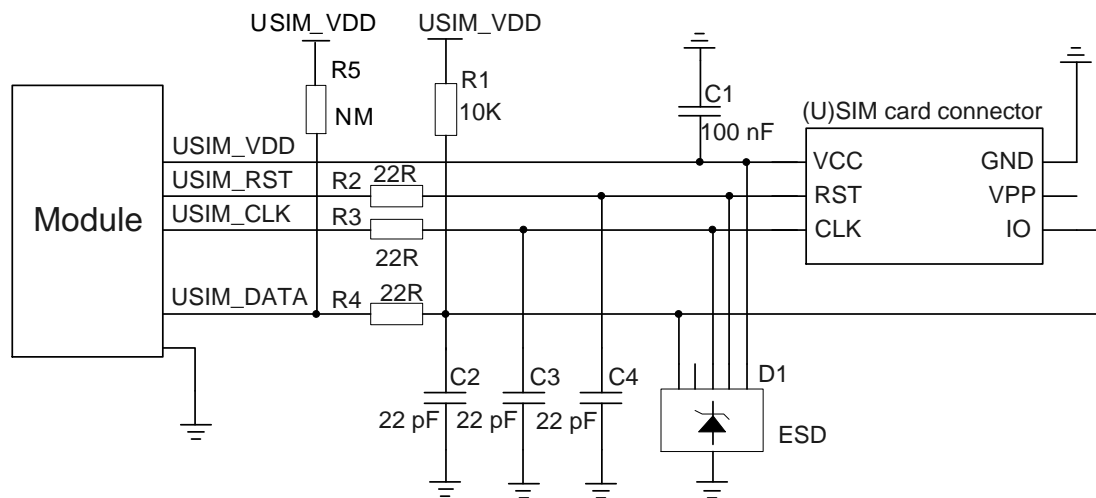

Figure 16: Reference Circuit for (U)SIM Interface with a 6-pin (U)SIM Card Connector
- Place the (U)SIM card connector as close to the module as possible. Keep the trace length of (U)SIM card signals as less than 200 mm as possible.
- Keep (U)SIM card signals away from RF and VBAT traces.
- Reserve a filter capacitor for USIM_VDD, and its maximum capacitance should not exceed 1 μF. Additionally, place the capacitor near the (U)SIM card connector.
- In order to ensure good ESD protection, it is recommended to add a TVS diode array with parasitic capacitance not exceeding 50 pF. Add 22 Ω resistors in series between the module and (U)SIM card to suppress EMI spurious transmission and enhance ESD protection. Please note that the (U)SIM peripheral circuit should be close to the (U)SIM card connector.
- Add 22 pF capacitors in parallel on USIM_DATA, USIM_CLK and USIM_RST signal lines to filter RF interference, and place them as close to the (U)SIM card connector as possible.
- Place the reserved pull-up resistors R6 and R5 in **Figure 16** and **17** close to the module.